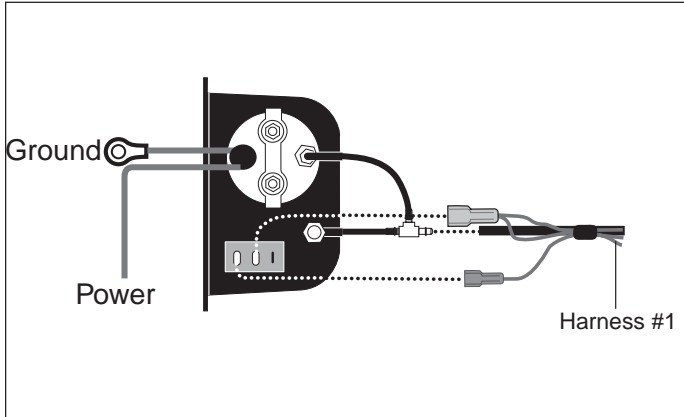

Figure 4
All of the electrical connections are matched by male-to-female push-in terminals. All of the air line connections will be white-to-white, green-to-green, indicated by the color band. The color band also serves as a reference point for installing the air line into the fitting. Properly installed, the front edge of the color band should be against the collar of the fitting (Figure 4 & 6).
3. Now connect Wiring Harness #1 to the back of the gauge panel. With your thumb against the front side of the switch, connect the wire by pushing the female connectors onto the blade connectors on the switch. Push the air line onto the "T" fitting until the air line completely covers the barb. Lubricating the air line will ease pushing the air line over the barb (Figure 4). Do not connect the power wire at this time.